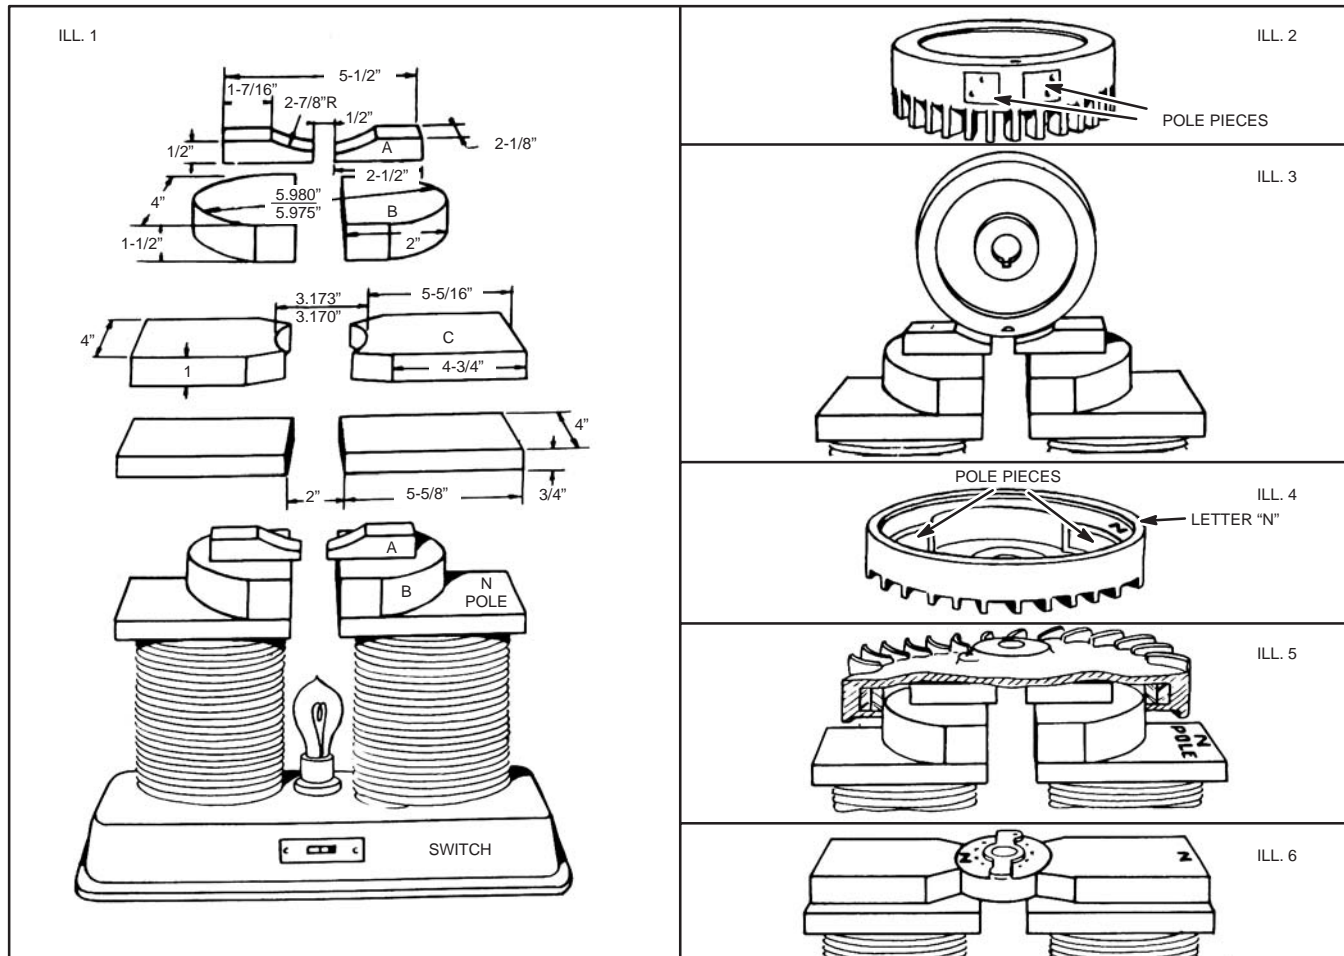

Fig. 76 – MAGNETIZING FLYWHEELS & ROTORS
Three (3) sets of pole pieces and two (2) plates on which to mount them should be made to the dimensions shown in Ill. 1, Fig. 76. The steel used for the pole pieces should be made of a soft steel such as AISI 1019. Dowels or screws can be used to hold pole pieces in place. A compass should be used to locate the poles on the charger.
Use pole pieces "A." Hold flywheel with pole pieces toward you and fins downward (Ill. 2, Fig. 76). The pole piece to the right should go on the pole of the charger that attracts the **NORTH** seeking end of the compass needle (Ill. 3, Fig. 76). Apply current twice for 3 seconds each with 1 second intervals.
Use pole pieces "B." The pole of flywheel marked "N" should be placed on the pole of the charger which attracts the **NORTH** seeking end of the compass needle (Ill. 4, Fig. 76). Apply current twice for 3 seconds each with 1 second intervals (Ill. 5, Fig. 76).
Use pole pieces "C." The pole of the rotor marked "N" should be placed on the pole of the charger which attracts the **SOUTH** seeking end of the compass needle (Ill. 6, Fig. 76). Apply current twice for 3 seconds each with 1 second intervals.